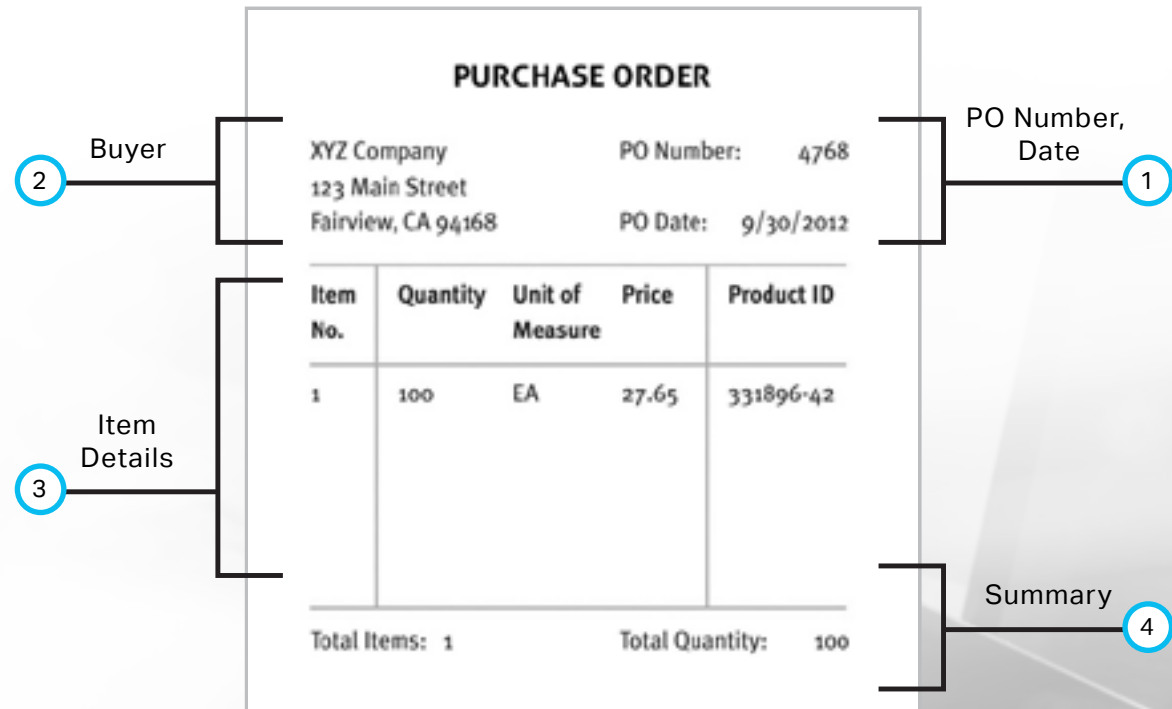

Figure 13: Purchase Order Sections
If you were filling out information on a Purchase Order, you would expect to see groups of related data. For example, see Figure 13, which shows a paper purchase order in which only one item is being ordered. Note that there are four sections, each providing a different set of information: In an EDI document, each section is described by one or more segments; each segment consists of one or more data elements. Each segment begins with a segment identifier (e.g., ST, BEG, N1, in ANSI; UNH, BGM, DTM in EDIFACT) that describes the type of data elements that follow. The data elements within each segment are separated by a data element separator, such as an asterisk(*) or a plus sign(+).
The ANSI X12 document for the above XYZ purchase order would look like this. (The numbers (1) to (4) correspond to the numbered sections in Figure 13.)